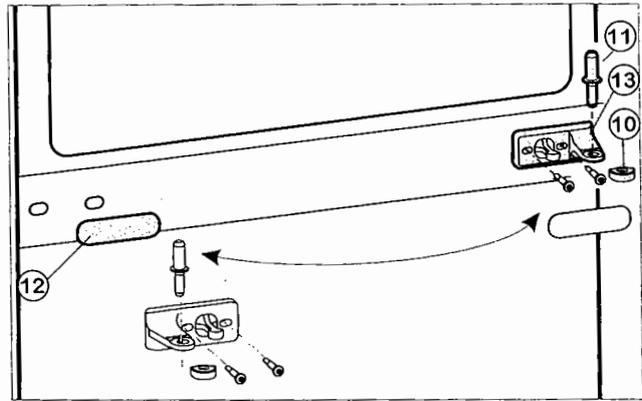
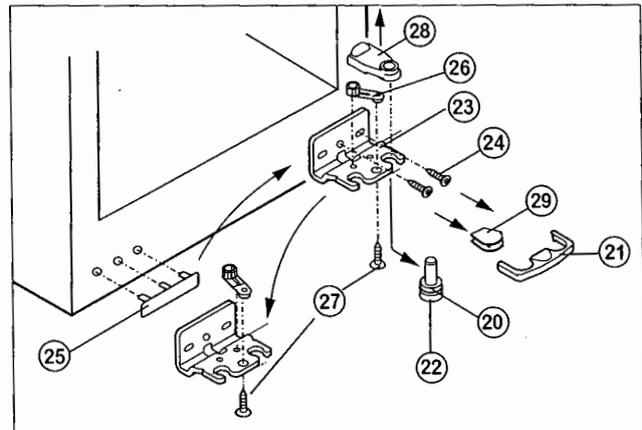

Fig. 5
Fig. 6
- ▶ Remove the plastic cap Fig. 5 (10).
- ▶ Draw the middle bearing pin Fig. 5 (11) out of the turn hinge and lower door.
- ▶ Carefully detach the cover panel Fig. 5 (12).
- ▶ Unscrew the middle turn hinge Fig. 5 (13), turn it 180° and transfer it to the new hinge side.
- ▶ Snap the cover panel Fig. 5 (12) into place on the new handle side.
- ▶ Pull off the lower cover Fig. 6 (21) forwards.
- ▶ Remove lower cover Fig. 6 (29).\*
- ▶ Raise the cover Fig. 6 (28) for removal.\*
- ▶ Turn the adjustable-height foot (22) all the way in.
- ▶ Pull out the bearing pin Fig. 6 (22) downwards and forwards. In so doing, pay attention to the hinge bush Fig. 6 (20).
- ▶ Unscrew the turn hinge Fig. 6 (23) (2 Torx 25) Fig. 6 (24).
- ▶ Unscrew the bearing part Fig. 6 (26) (1 Torx 25) Fig. 6 (27), transfer it to the opposite hole in the turn hinge and screw it down again.
- ▶ Carefully lift off and transfer the cover Fig. 6 (25) on the handle side.
- ▶ Screw down the turn hinge Fig. 6 (23) on the new hinge side, possibly with the aid of a cordless screwdriver, through the outer oblong hole and round hole.
- ▶ Tip the appliance back a little again and transfer the bearing pin Fig. 6 (22).
- ▶ Place the lower door from above onto the lower bearing pin *Fig. 6 (22)*.
- ▶ Turn the plastic cap *Fig. 5 (10)* 180° and place it on the middle turn hinge *Fig. 5 (13)*.
- ▶ Place the middle bearing pin *Fig. 5 (11)* in the lower door, on the new hinge side, through the middle turn hinge *Fig. 5 (13)*.
- ▶ Place the upper door on the middle bearing pin *Fig. 5 (11)*.
- ▶ If necessary, align the doors to the appliance housing by way of the two oblong holes in the lower turn hinge *Fig. 6 (23)* and middle turn hinge *Fig. 5 (13)*, then tighten the screws.
- ▶ Engage the cover *Fig. 6 (21)* on the lower turn hinge.